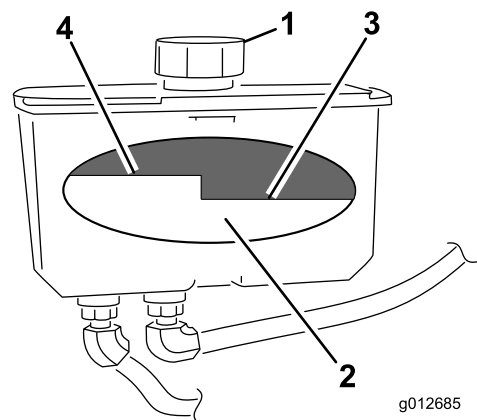

Figure 73
4. Clean area around cap and filler neck of hydraulic tank (Figure 73).
5. Remove cap from filler neck. Look inside to check the fluid level in the reservoir. (Figure 73).
Note: The fluid level should be to the top of the hot level of the baffle, when the fluid is warm (Figure 73).